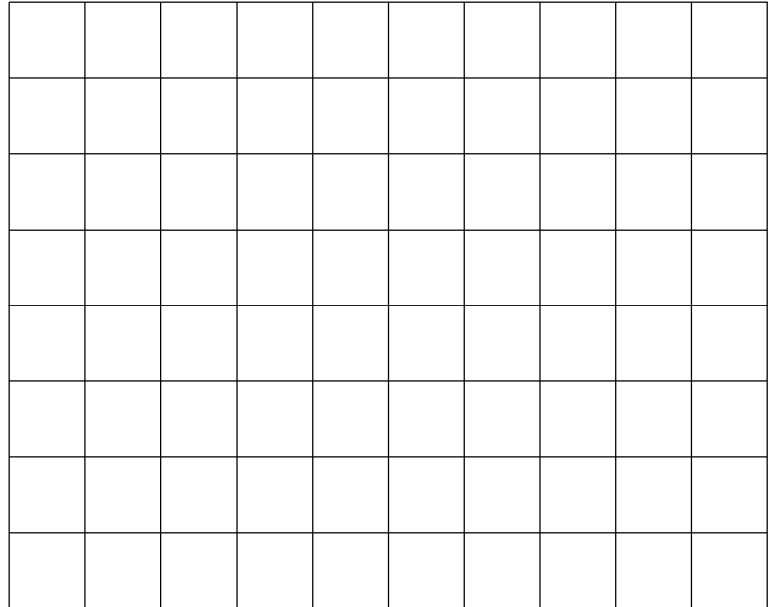

Fig. 15.2.6: Determining the phase angle
- Measure the phase angle φ on the oscilloscope. Display the voltages U and U_R . Draw the voltage waveform in the chart (Fig. 15.2.6).